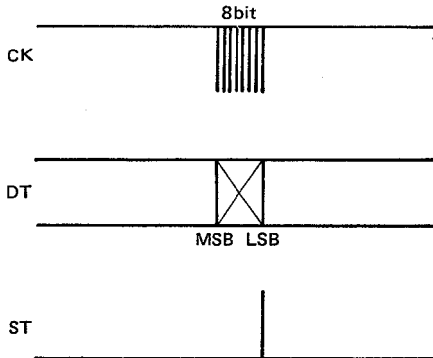
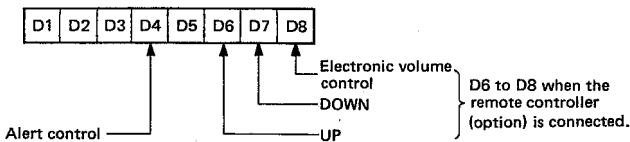

Fig. 13 Data transfer format for alert and electronic volume control
Fig. 14 Data configuration for alert and electronic volume control
The alert and electronic volume control outputs are provided by pins P92 (CK), P91 (DT), and P21 (ST) of the microprocessor to the 8-bit shift register (IC3) in the TX-RX unit. P92 (CK) and P91 (DT) are also used for the PLL data. **Fig. 13** shows the data transfer format. **Fig. 14** shows the data configuration.